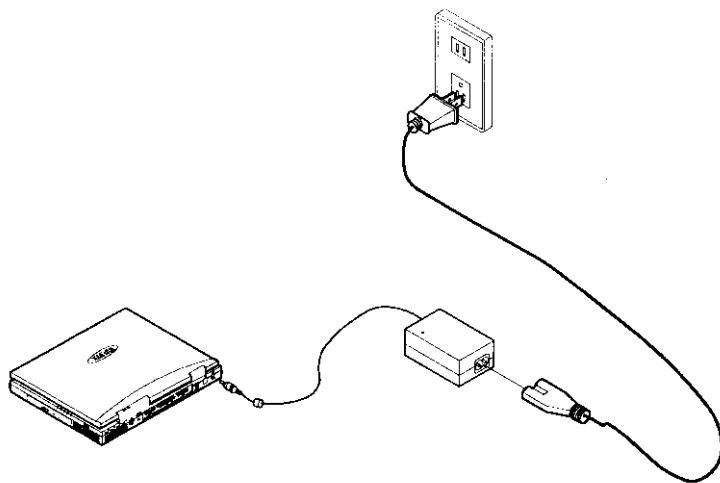

Figure 1-3
3. Plug the power cord into a properly grounded outlet (Figure 1-3).